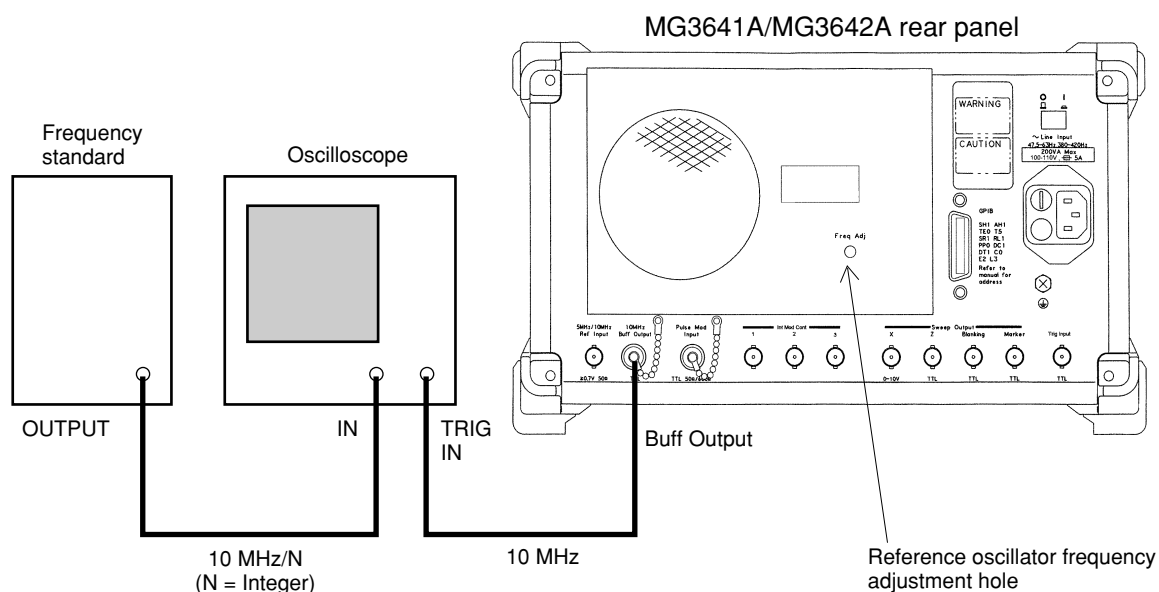

Fig. 8-1. Calibration of Reference Oscillator
1.	Setup the device at room temperature $23 \pm 5^\circ\text{C}$. See Figure 8-1.
6.	The MG3641A/MG3642A is provided a Reference oscillator calibration hole on the rear. See Figure 8-1. Turn the potentiometer in the hole so that the input waveform on the oscilloscope does not move to the right or left.